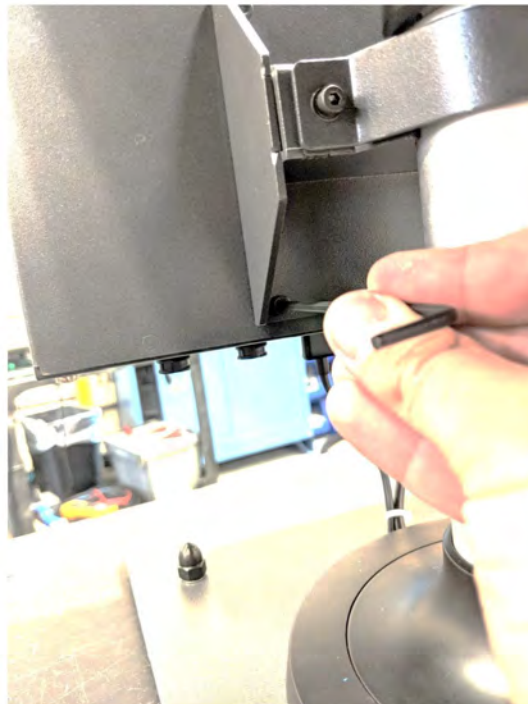

Figure 16-41 Remove the Bottom MCU Fasteners
5. Locate and completely remove the two bottom fasteners (refer to Figure 16-41).